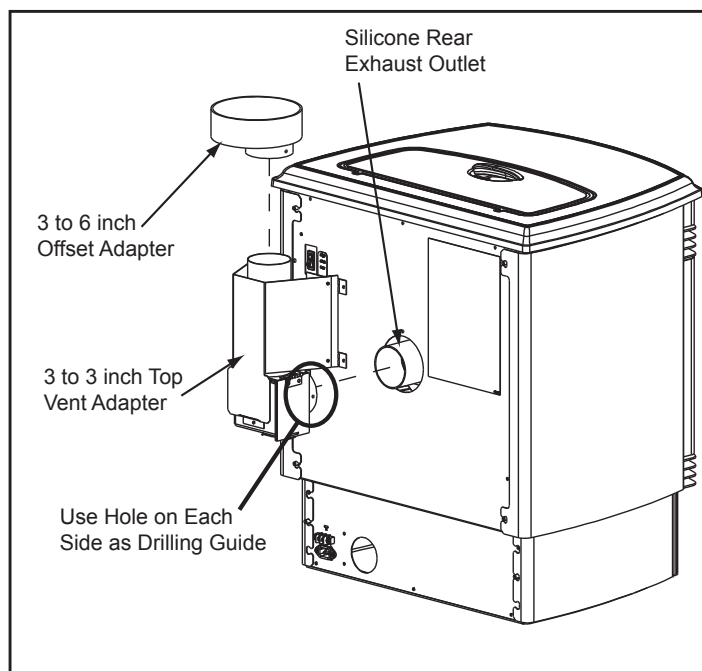

Figure 19.1
1. Put a layer of high temperature silicone on the 3 inch (76mm) exhaust outlet. **Do not put silicone inside of pipe. Figure 19.1**
2. Slide the top vent adapter onto the rear exhaust outlet and adjust the assembly to a vertical position. **Figure 19.1.**
5. Drill 2 holes with #26 drill bit through the rear exhaust outlet using the 2 holes already in the short horizontal pipe in the top vent adapter as a guide. Install the 2 screws. **Figure 19.1.**
1. Put a layer of high temperature silicone on the 3 inch (76mm) exhaust outlet. **Do not put silicone inside of pipe. Figure 19.1.**